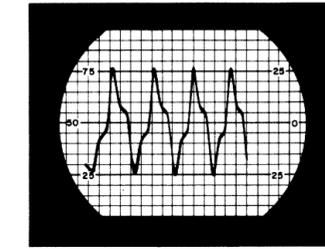

Figure 2.
- Adjust the 1000 cps input signal to 1.5 volt. This should drive the IDC circuit into full clip. See Figure 2.
(2) With this input signal level adjust the IDC control on the transmitter to provide a peak-to-peak recovered signal on the oscilloscope of 10 squares, which is equivalent to  $\pm 5$  kc deviation as shown in figure 2. A wide-band system should be adjusted for 30 squares ( $\pm 15$  kc). If the waveform under the above conditions does not resemble the waveform shown in figure 2 adjust L101 until a symmetrical waveform is obtained. Re-adjust the IDC control.
(3) Reduce 1000 cps input to 0.3 volt. Essentially full deviation should still be observed on the oscilloscope. Less than full deviation may indicate a weak audio transistor or other lack of audio gain.
(1) Remove "Vibrasender-sponder" resonant reed from its socket.
(2) Adjust the 1000 cps input signal to 1.5 volts. This should drive the IDC circuit into full clip. See Figure 2.
(3) With this input signal level adjust the IDC control on the transmitter to provide a peak-to-peak recovered signal on the oscilloscope of 10 squares, which is equivalent to  $\pm 5$  kc deviation as shown in figure 2. If the waveform under the above conditions does not resemble the waveform shown in figure 2, adjust L101 until a symmetrical waveform is obtained. Re-adjust the IDC control.
(4) Reduce 1000 cps input to 0.3 volt. Essentially full deviation should still be observed on the oscilloscope. Less than full deviation may indicate a weak audio transistor or other lack of audio gain.
(5) Remove the 1000 cps tone signal. Insert the "Vibrasender-sponder" unit in its socket.
(6) Check the "Private-Line" tone deviation. This may be read directly from the oscilloscope by pressing the transmitter on switch on the test set. The tone deviation should be 0.5 to 1 kc.